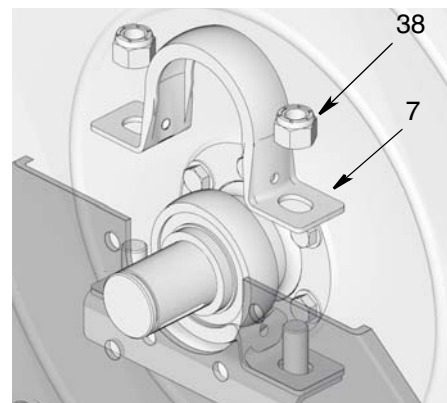

FIG. 15
- a. Remove nuts (38) (FIG. 15).
- b. Insert a flat blade screw driver under the retainer (7) to pry it up and remove it (FIG. 15).
- c. Remove spacers (15) and bearing (8).